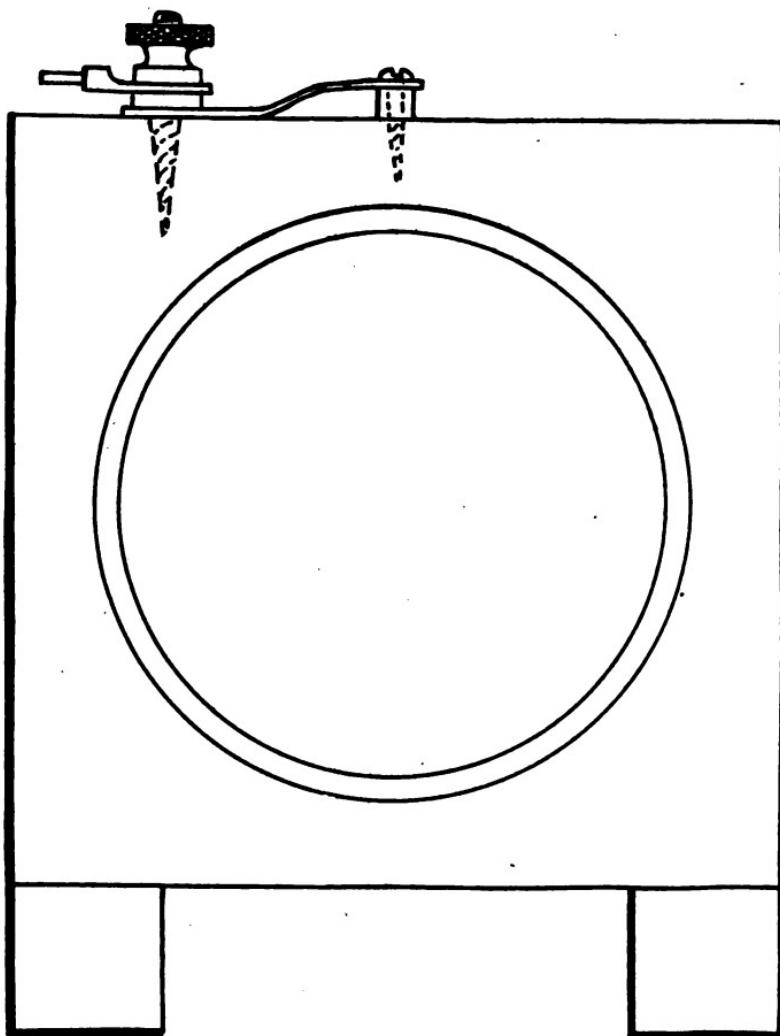
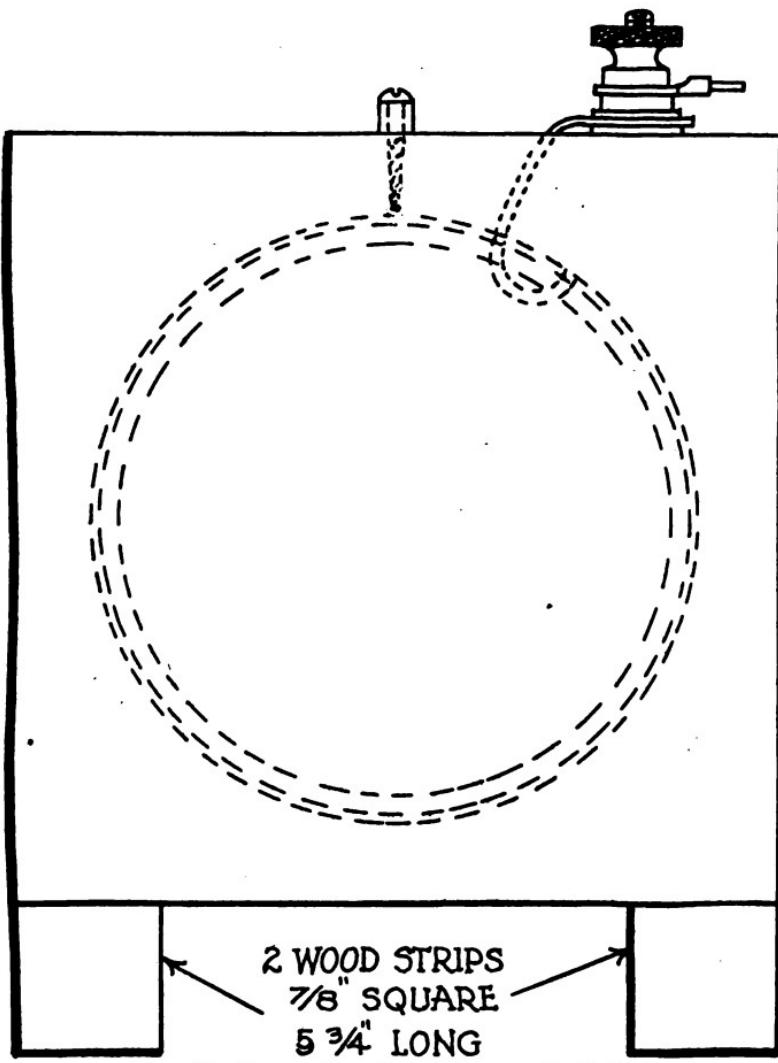
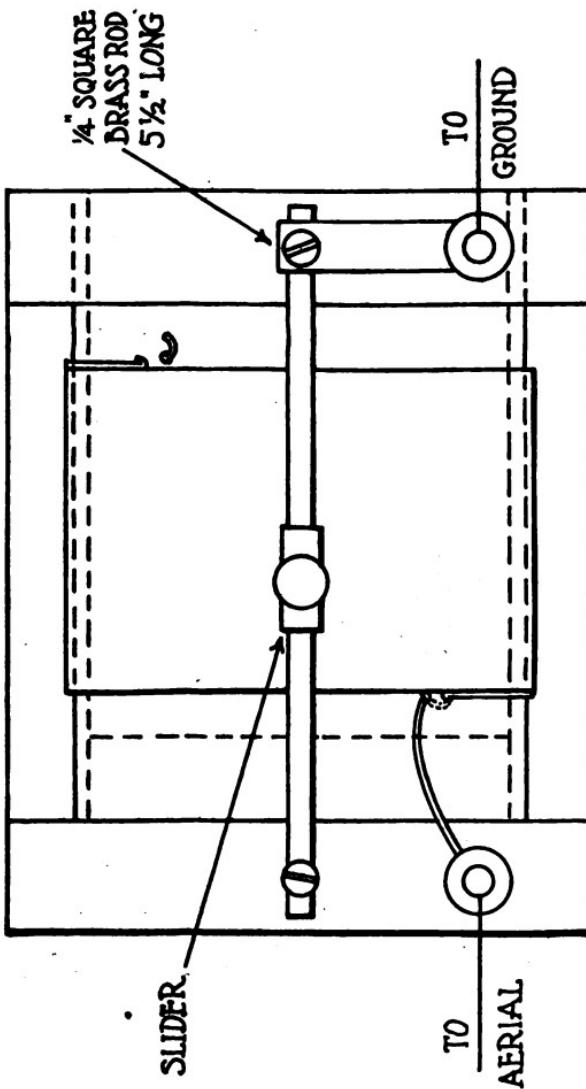

Fig. 57—Loose Coupler Primary; Right End
Fig. 58—Loose Coupler Primary; Left End
Fig. 59—Loose Coupler Primary; Top View
- 2 pieces $\frac{3}{16}$ " by $\frac{1}{2}$ " by 2" sheet brass. (One piece is for the regulator contact spring, and the other is for the connection that is seen in Fig. 57 connecting the square rod to the binding post.)
With the wood parts finished, we are ready to start on the tube. This should be given a coat of the water glass, but only over that part where the winding will come. The water glass can be used all over, but as it dries rather hard, it may make the tube fit too tightly at one end or the other, if the fit had previously been made just right. After this first coat of water glass has dried, the winding can be put on. The top view of the primary illustrated in Fig. 59 shows a good way of starting the winding. Two holes are bored in the cardboard tube, just big enough for the wire, and it is run down through one of these and up through the other, and then around the tube, until a space of $2\frac{1}{2}$ " has been covered. Two other holes can then be used to fasten the wire, to keep it from unwinding. In Fig. 59 it will be seen that the left end only of this winding connects to a binding post, while the right end is not connected, the other connection from the winding being made by the slider which works on the square brass rod.
After the track of bare wire has been made on top of the coil, we are ready to put on the brass rod with its slider, the brass rod being connected to one of the binding posts by one of the thin brass strips, as shown at the right in Fig. 59. Fig. 57, which shows the right end of the primary, also shows this strap connection. The left end of the rod has the screw only which holds it to the end bracket. The left end of the primary is shown in Fig. 58.
a minimum. Going back to the primary, we see in Fig. 59 *three* places where solder should be used. At the connection of the winding to the "aerial" binding post, while it may be clamped tightly, a drop of solder will insure a good connection. In the same way solder should be used to connect the thin brass strip at the right to both the brass rod and the "ground" binding post. Then in this circuit the only rubbing contacts that we shall have will be the slider on the winding and on the brass rod.